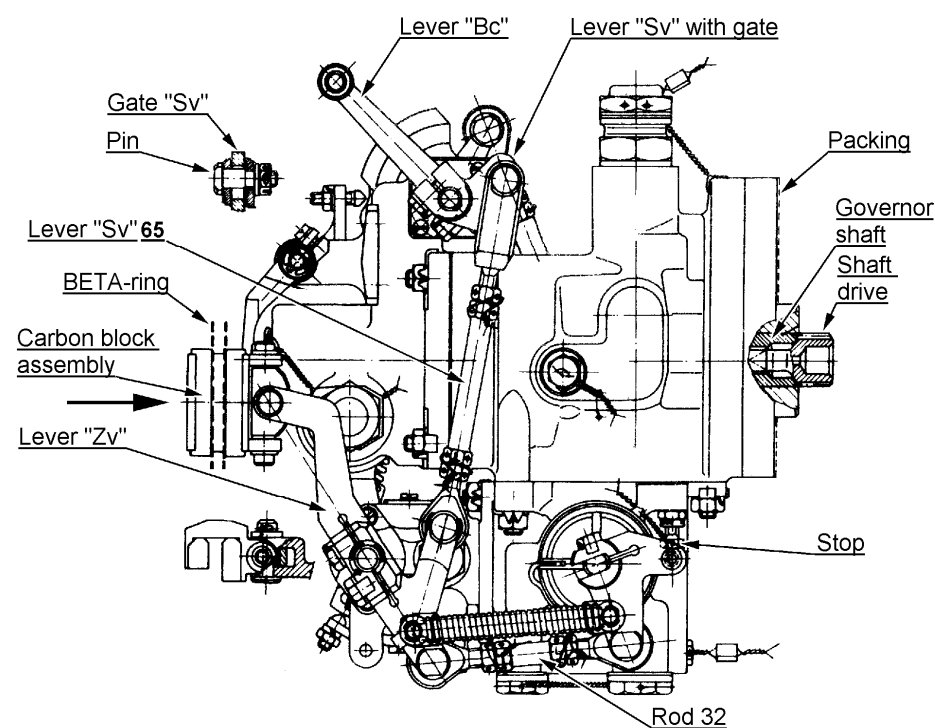

Figure 11-4 Governor LUN7815.02 View from engine
BE CAREFUL AT SECURING ELEMENT 32 (FIGURES 11-4 AND 11-5, LOCKING WIRE AND COTTER PIN). LEFT THREAD IS MARKED WITH "L". THE STOP – FIGURE 11-4 – MUST HAVE THE SAFETY WIRE ACROSS THE HEXAGON HEAD OF THE BOLT. STOP MUST NOT BE RELEASED AND RE-ADJUSTED, IT IS ADJUSTED BY GOVERNOR MANUFACTURER.
- (6) Remove cotter pin, nut and remove pin from rod "Sv" [65]. Then place the rod out from slotted piece "Sv" - see figure 11-4.
(10) Grease carbon block assembly pins with Aeroshell Grease 5, 6 or 22.
(11) Verify function of the microswitch "V" (figure 11-3) by moving lever "Zv" in the direction of arrow (figure 11-4).
(12) Grease bearings of elements 29, 32 and 65, and other appropriate surfaces with Aeroshell Grease 5, 6 or 22.
(14) Verify governor flange and gear box flange. Both surfaces must be clean and free from any damage. Use a clean cloth eventually with cleaning solvent to wipe seating faces.
(15) Insert drive rod into the governor shaft with square inward (figure 11-4). Try to turn with drive rod. The rod should rotate freely.